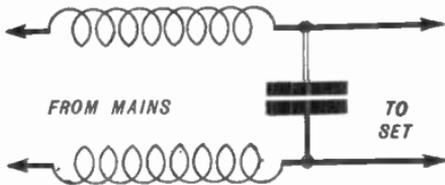

FIG. 286.—A Cure for H.F. Interference via the Mains.
H.F. Interference via the Mains. It sometimes happens that most of the noise arrives via the mains, and not down the aerial. This can be tested by disconnecting the aerial. If the noise continues then, one can be fairly certain that the mains are picking up most of the unwanted impulses. Try a good H.F. choke in each lead with a fixed condenser across them, as in Fig. 286. A 0.01-mfd. condenser (or larger in the case of D.C. mains) will be suitable.